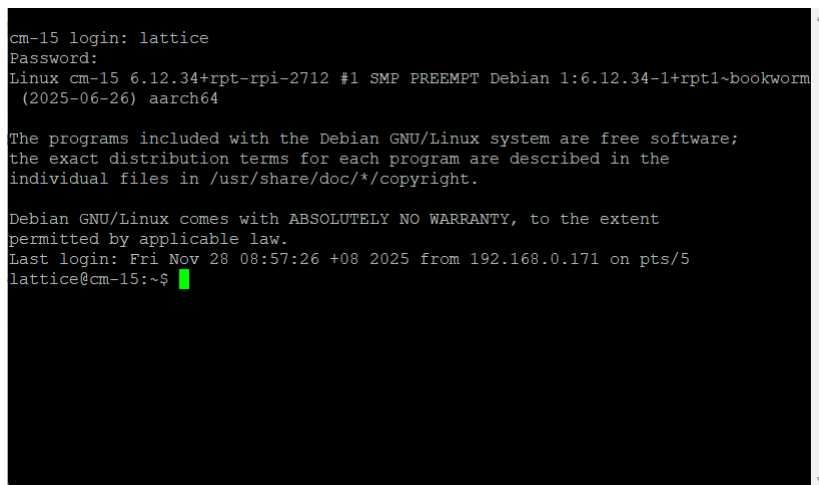

Figure 5.21. Serial Terminal Prompt
- Log in with the default credentials. A terminal prompt is displayed as shown in Figure 5.21.